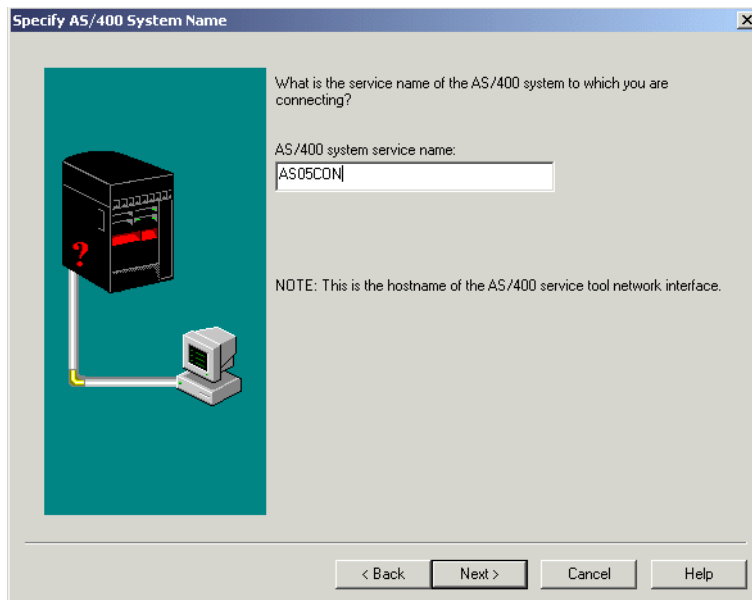

Figure 7-25 Specify AS/400 System Name display
6. On the display shown in Figure 7-25, you must enter the AS/400 system or host name. This is the system name or host name of the Operations Console LAN adapter as it is known on the network. Then click **Next**.